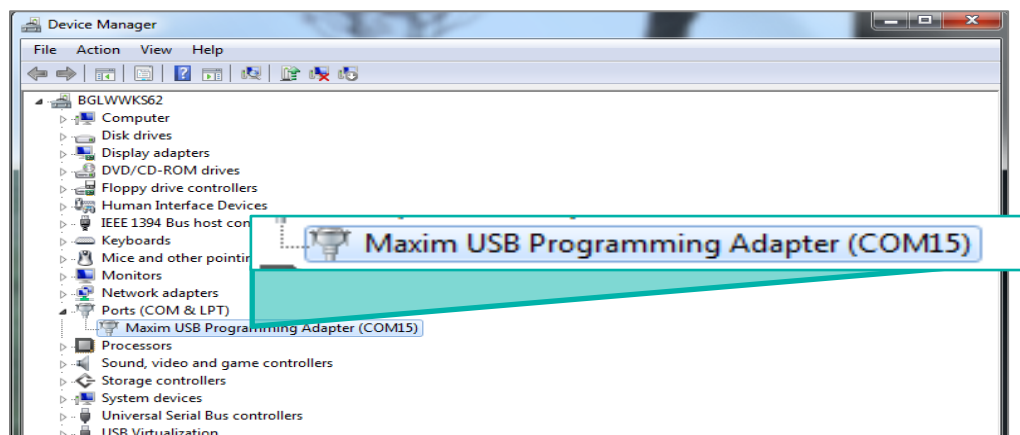

Figure 6: COM Port Enumeration
4. When the TFP3 Host driver software installation is successful, the TFP3 device is enumerated as a COM port, as shown in Figure 6.